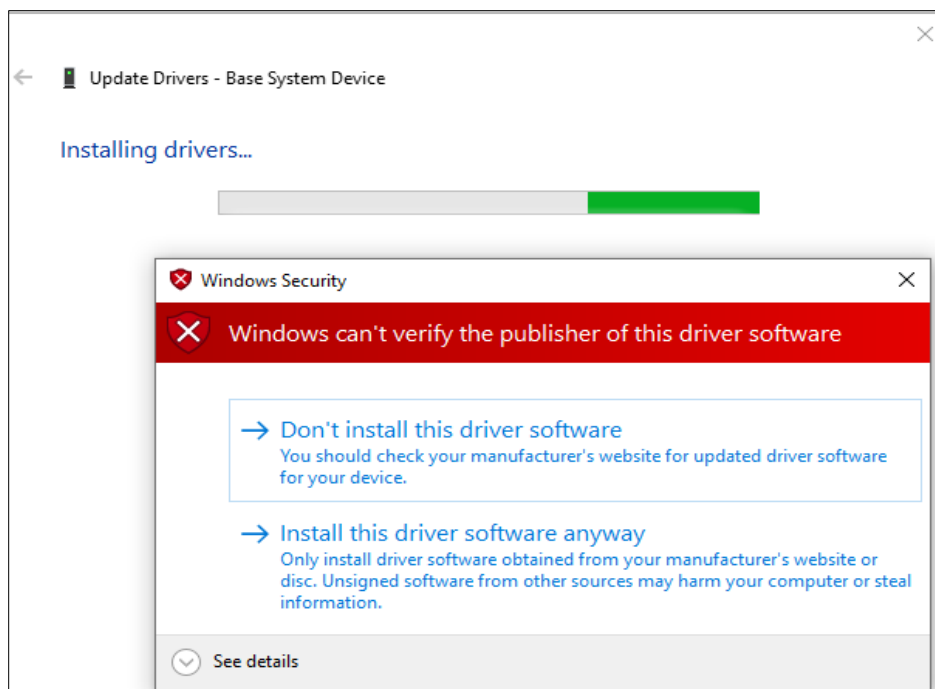

Figure 5.28. Windows Security in Device Manager
7. If you receive a Windows Security prompt, select **Install this driver software anyway** as shown in Figure 5.28.